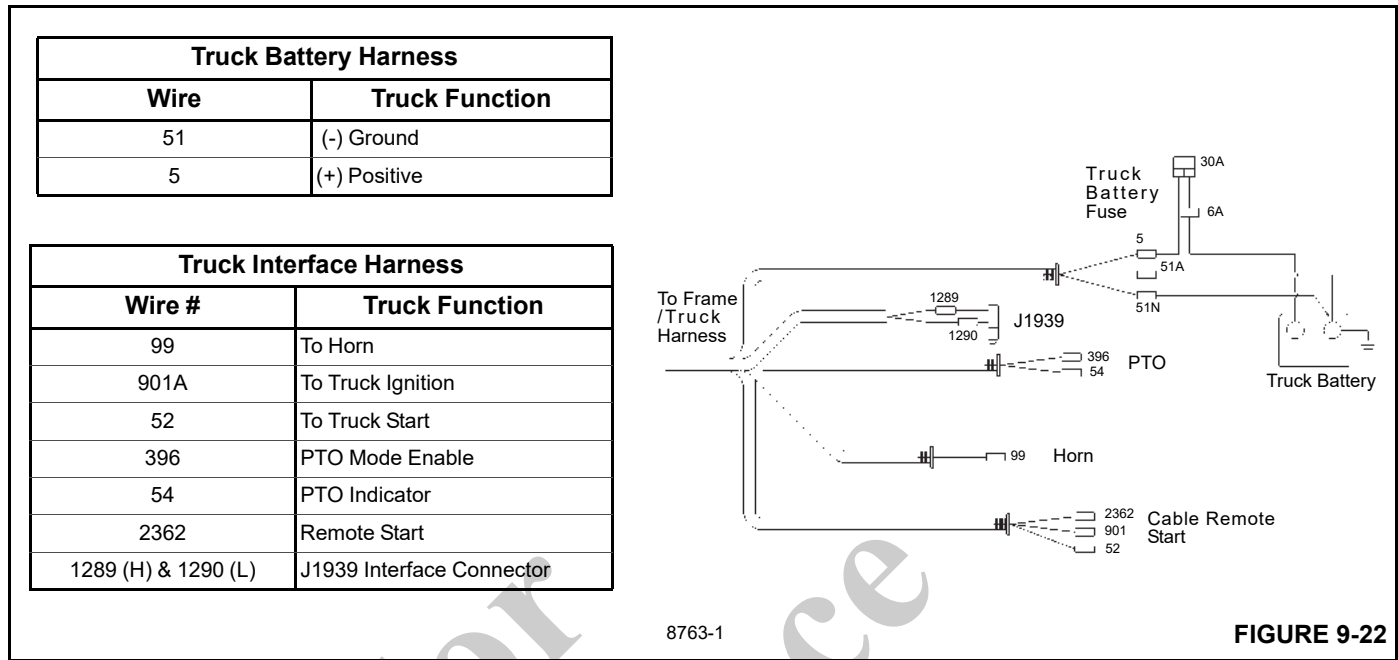

FIGURE 9-22
- Connect the truck interface harness as shown in Figure 9-22.
- Run the battery harness to the truck battery and connect as shown in Figure 9-22.